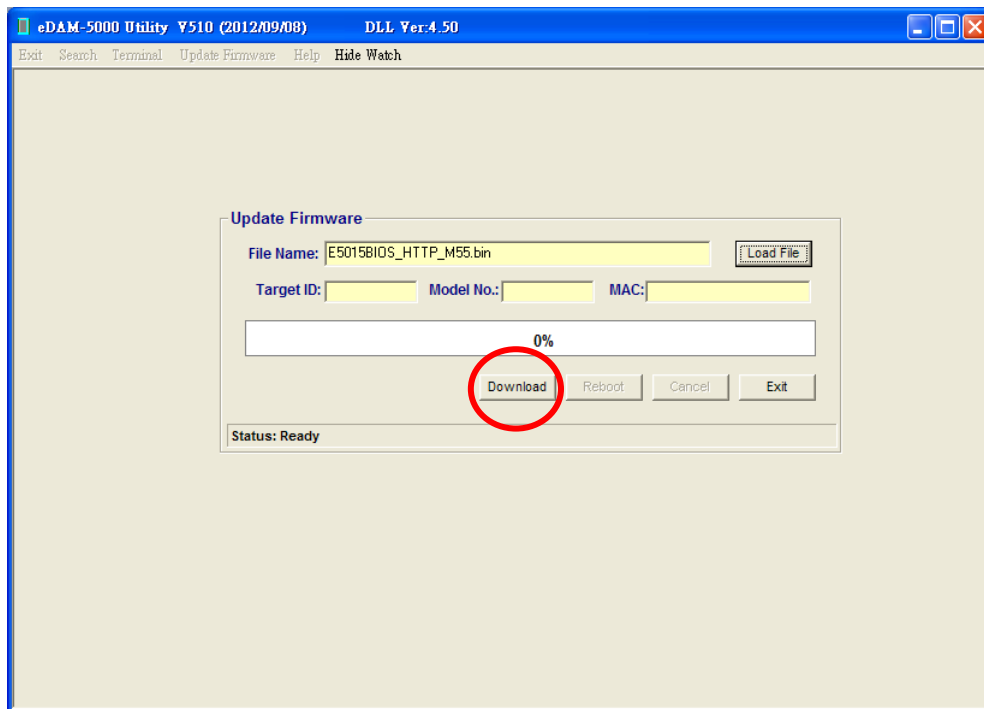

Figure -7
7. Click "**Download**" button to start to update firmware (see Figure -7)